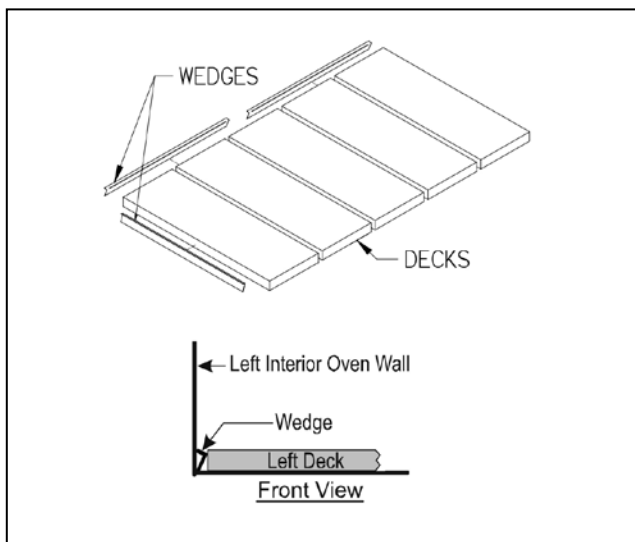

Figure 8
- (1) KEEP THE OVEN DOOR CLOSED DURING THE ENTIRE PRE-DRYING PROCESS.
- (2) Let the baking stones adjust to room temperature before beginning.
- (3) Preheat the stones with the pilot burner on for 1 hour.
- (4) Increase the temperature to below 300°F to maintain a flame height of less than a 1/4"). Maintain this setting for 3 hours
- (5) After 3 hours increase temperature to 300°F for 1 hour, then 400°F for 1 hour, and then 500°F for 1 hour.
- (6) DO NOT ALTER THIS PROCESS, failure to properly pre dry stones can cause warping, cracking, or shattering with explosive force.
- (g) Use wedges in the back and on the sides of the deck if the slabs are loose. The five decks should be tight against each other with no gap between them (See Fig. 8).